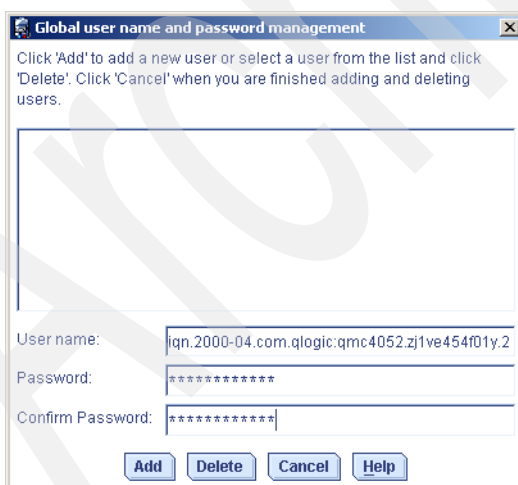

Figure 4-75 Global user and password management
20. Click the **Add user** button. Specify as **User name** the IQN of the HBA Port used to access logical drives from this TotalStorage DS300. Enter a password with at least 12 characters and confirm it in the **Confirm Password** field. The IQN `iqn.2000-04.com.qlogic:qmc4052.zj1ve454f01y.2` of the second port was used as user name and the password `a1234567890b`. See Figure 4-75.